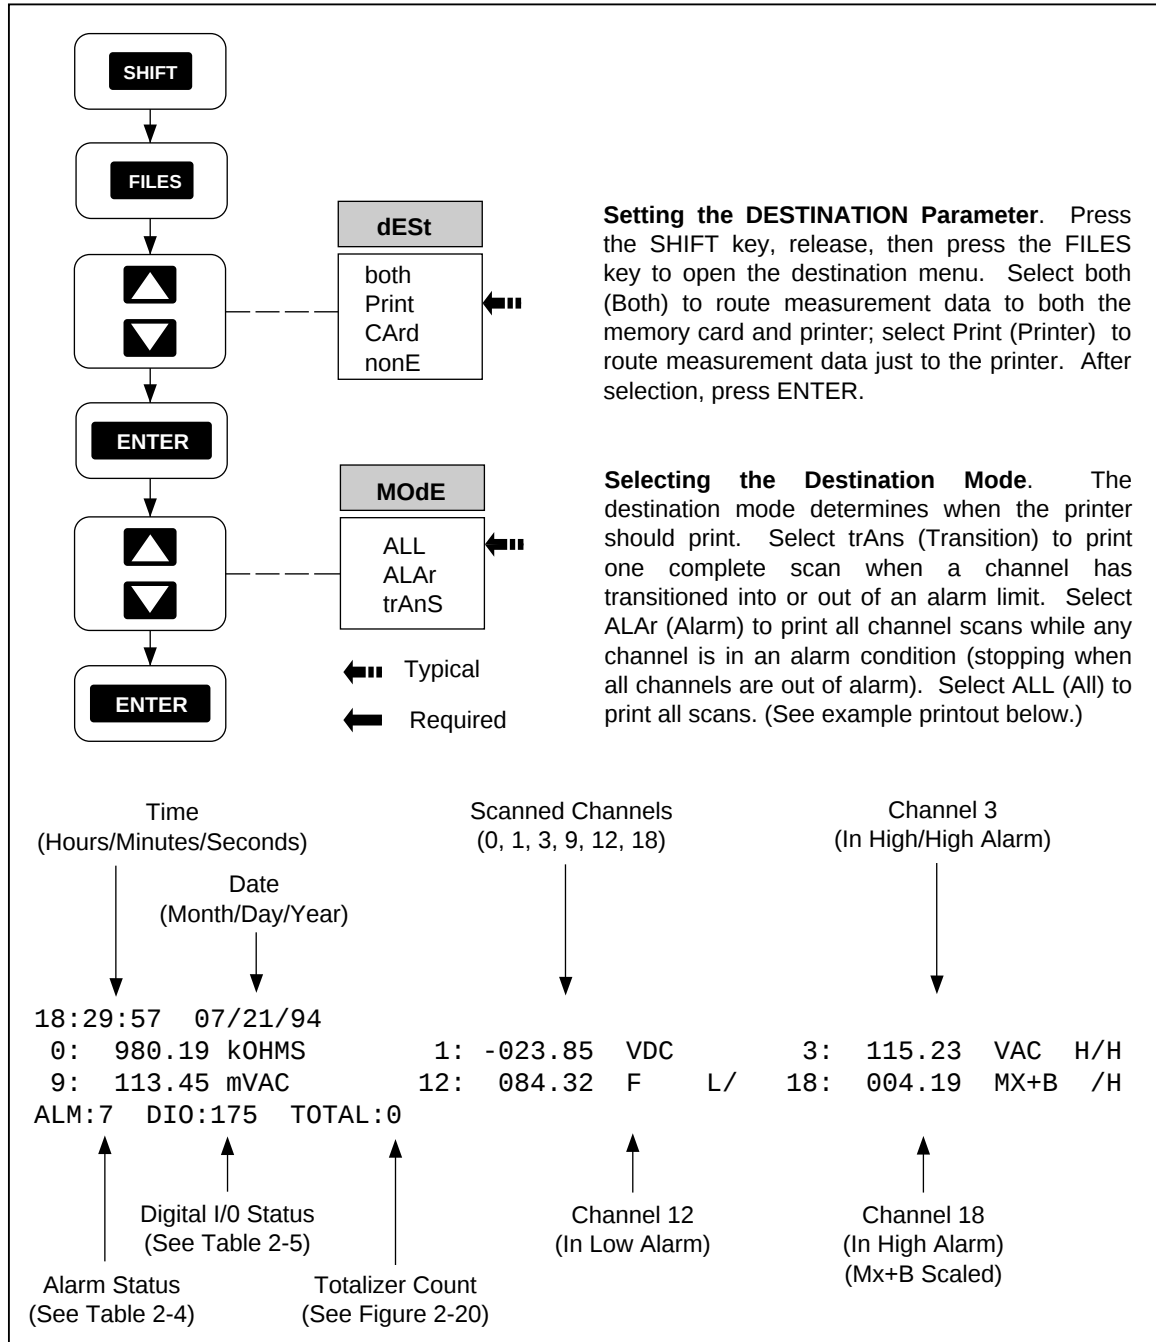

Figure 5-3. Printing Measurement Results During Scanning
Correct operation of the instrument RS-232 link with a printer depends on the link parameters baud rate, parity, and CTS (Clear To Send). Perform the procedure in Figure 5-3 to establish communication link parameters. Refer to your printer manual for information on selecting identical parameters for the printer, usually through the setting of DIP (dual in-line package) switches (with the printer unpowered). The instrument uses a fixed one start bit and one stop bit.
- Printing Measurement Results During Scanning (Figure 5-3)
Perform the procedure in Figure 5-3 to print measurement results during scanning. The destination for the scanned data can be the printer, memory card, both the printer and the memory card, or no destination, where the data is saved only in the Review array. The mode for the printing to the printer or memory card can be all scanned data, scanned data only when any scanned channel is in alarm, or scanned data only when an alarm transitions from one alarm state to another.